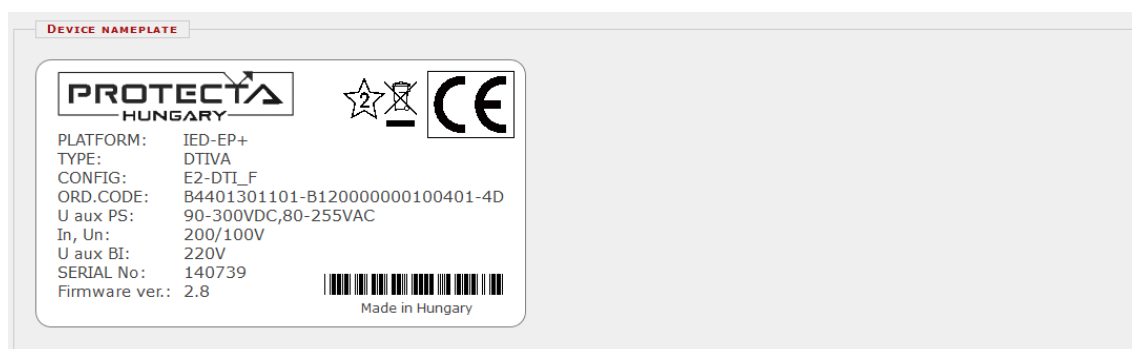

Figure 4-23 Device nameplate
**Device nameplate** (Figure 4-23) contains product information and basic data of the device.